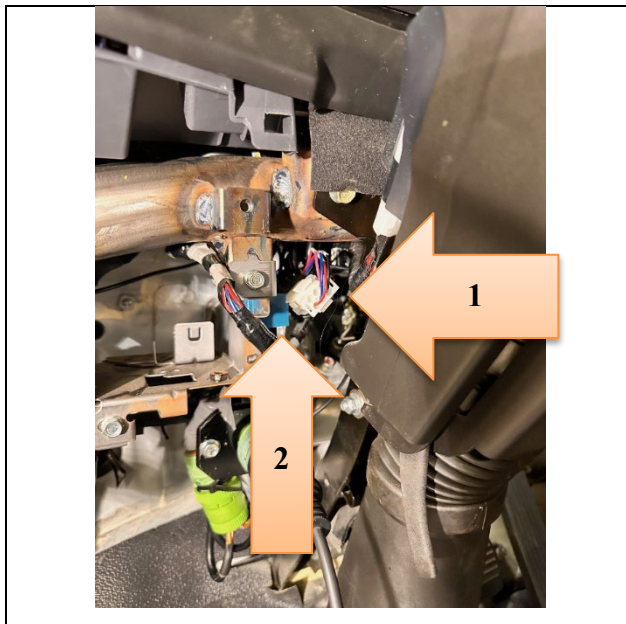

Figure 9
6. Disconnect connector MH-2 located near and slightly above the B-216 Flasher Module. (See Figure 9.)